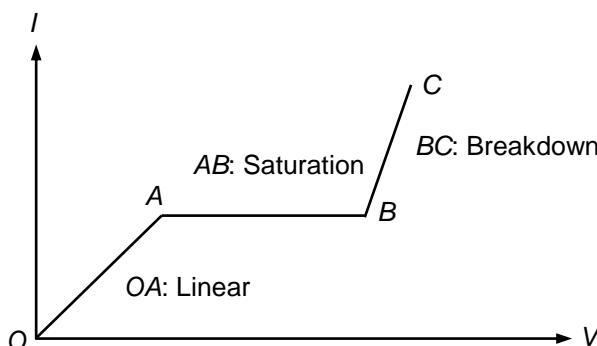

Fig. 1.14: The *I-V* characteristic curve for an intrinsic semiconductor.
5. The *I-V* characteristic curve for an intrinsic semiconductor is shown in Fig. 1.14: